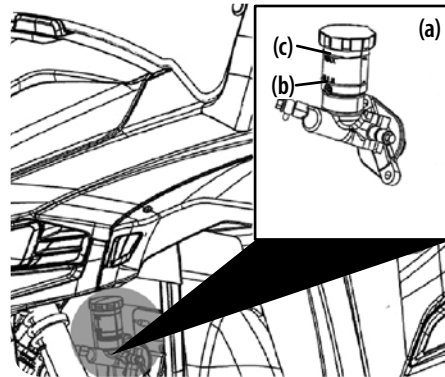

Figure 5-14
1. Check to see that the brake fluid level on the brake fluid reservoir (a) is up to the MIN (b) level. See Figure 5-14.